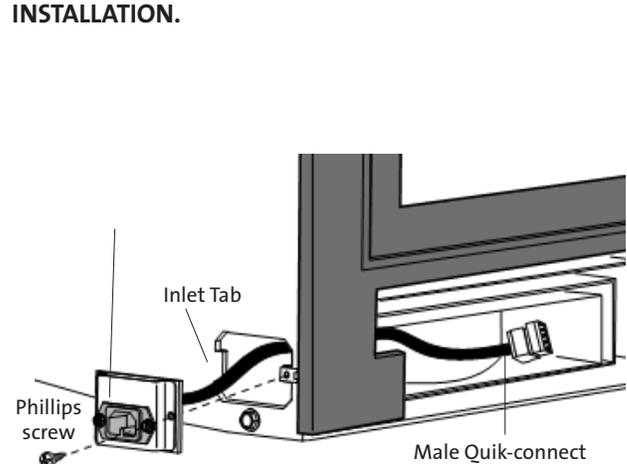

Figure 9. AC power receptacle lead routing.
1. Determine to which side the blower power cord will be routed. Insert the AC power receptacle lead through the appropriate inlet opening in the side of the firebox. See fig. 9. Remove the #8 x 5/8" pre-installed phillips screw and engage the receptacle bracket with the tab in the inlet opening. Reinstall the screw.